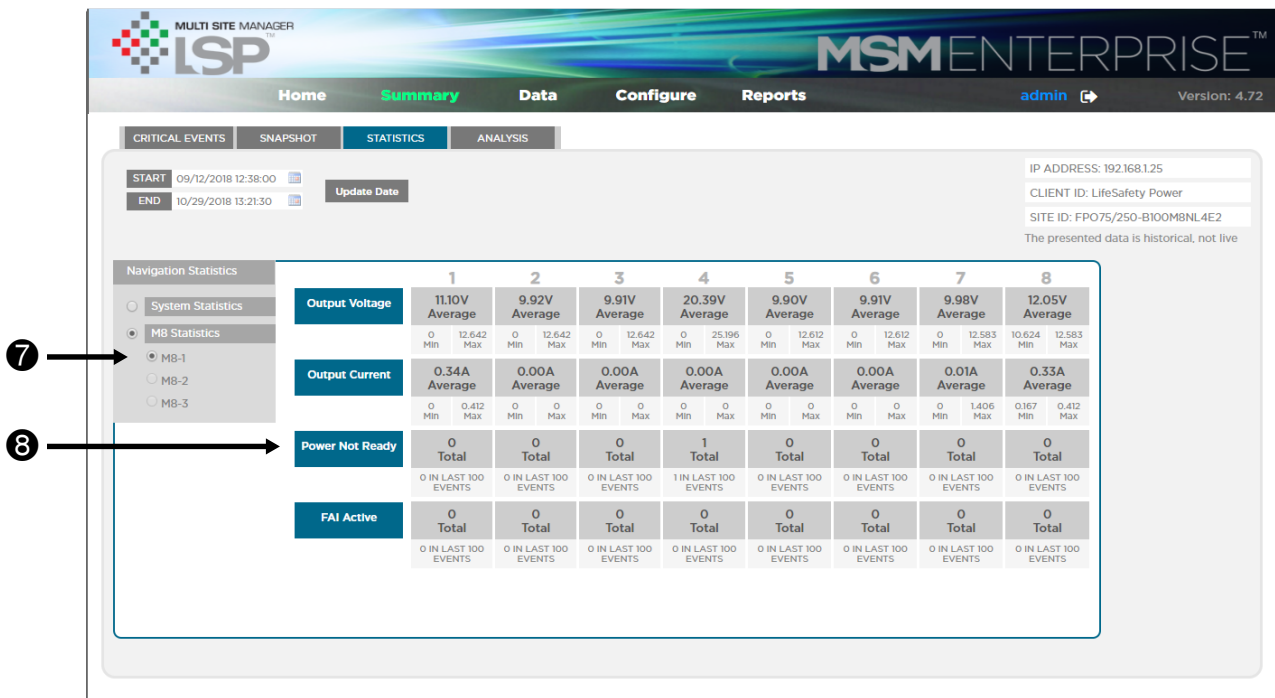

Figure 31
- M8 Statistics - This selection will show statistical data for any connected M8 devices (Figure 31). If M8 device data is not available, this selection will be grayed out.